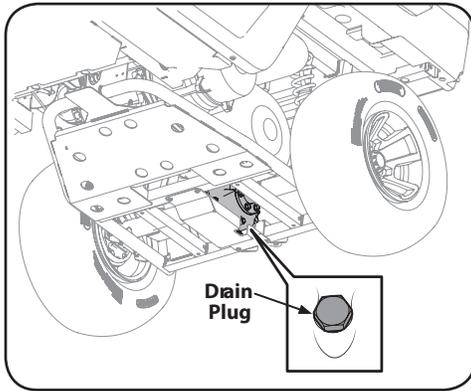

Figure 6-6
4. Access drain plug on underside of machine and remove plug. See Figure 6-6.